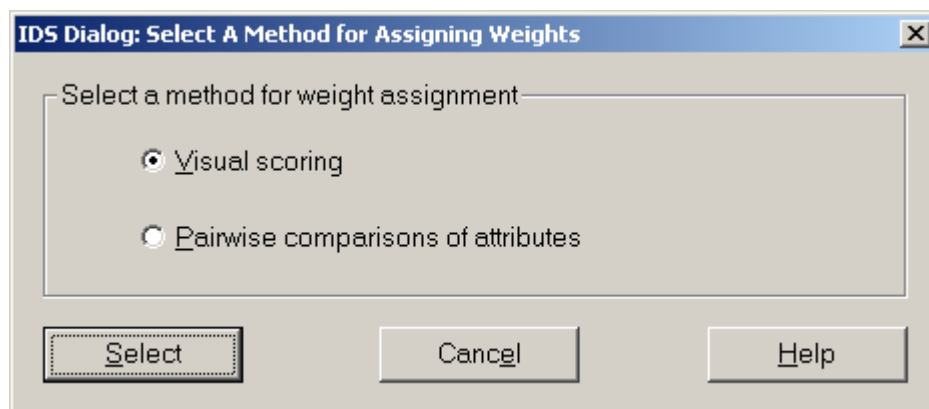
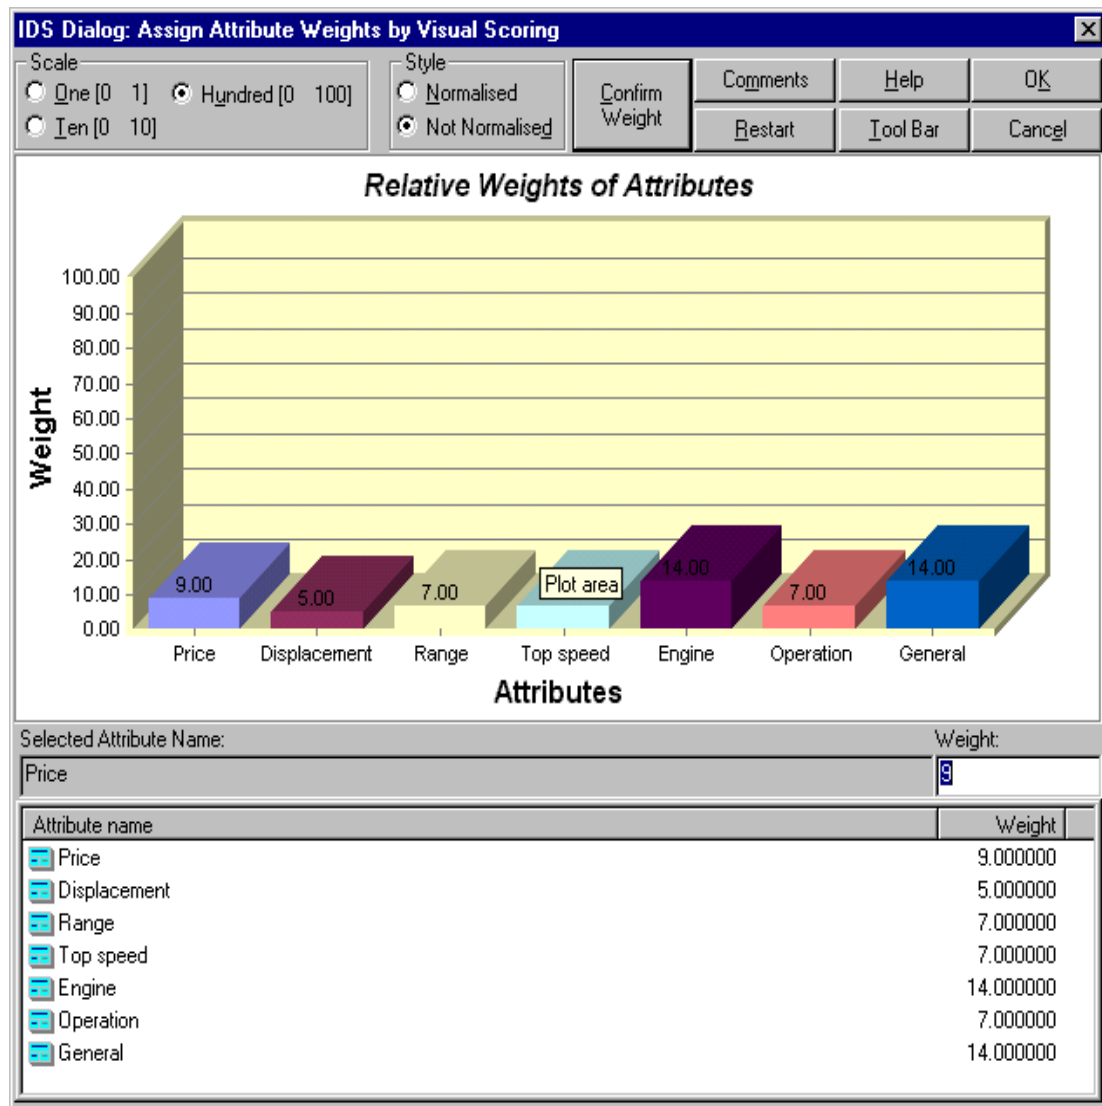
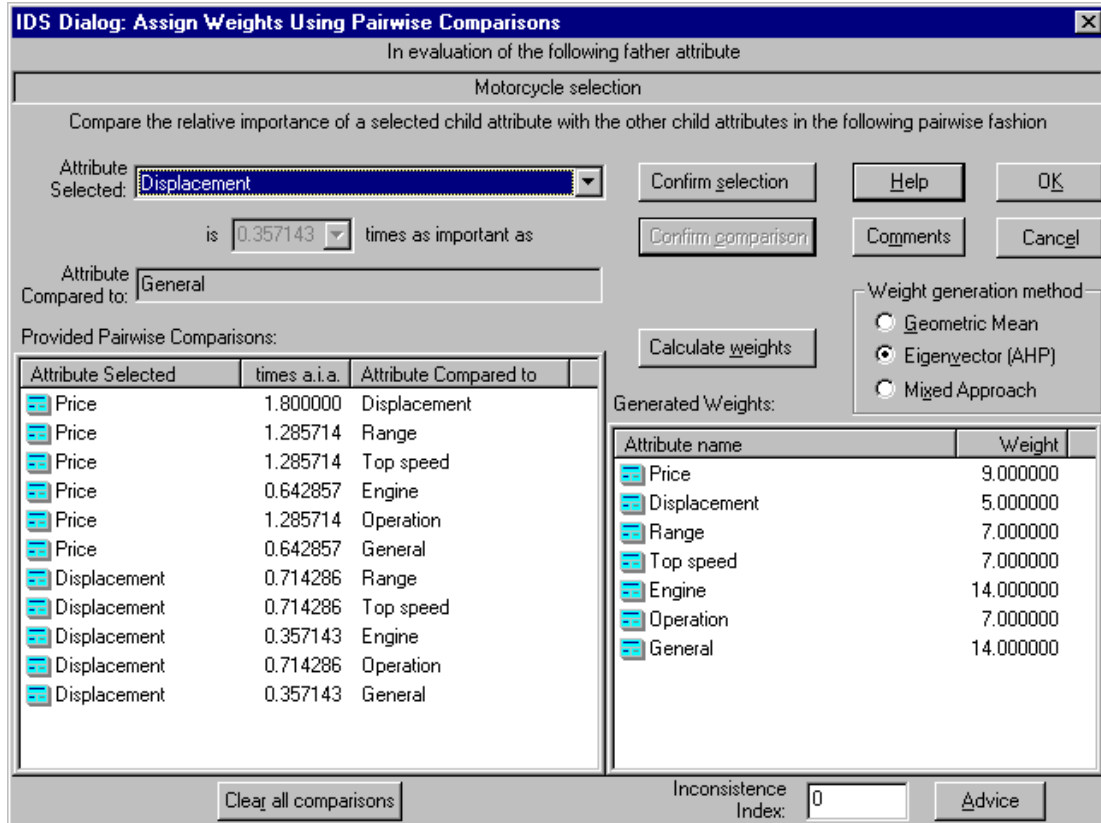

Figure 3.1 Select A Method for Assigning Weight
Figure 3.2 Assigning Attribute Weights by Visual Scoring
Figure 3.3 Assigning Attribute Weights by Pairwise Comparison
- (2) Click the shortcut icon  (the w here stands for Weight) from the toolbar of the IDS main window, and then the *Visual Scoring* radio button and the *Select* button on the *IDS Dialog: Select A Method for Assigning Weights* (**Figure 3.1**). Alternatively, from *Modelling* menu of the IDS main window select *Estimate Weight* and then select *Visual Scoring*. This will invoke the dialog window shown in **Figure 3.2**.
- (3) In the dialog window shown in **Figure 3.2**, the weight of each attribute in the group is displayed graphically. The relative importance of each attribute is represented by the height of its column. To change the weight of an attribute, you can use a computer mouse to drag the top edge of its column up and down until it reaches the desired height. During the dragging process, the weights are displayed at the top of each column dynamically.
At the bottom of the window (**Figure 3.2**), there is also a list view to list all attributes in a group and their weights. By clicking on any of the attribute name in the list, you can type in a weight value from the edit box just above the list. This is
- (4) When you are happy with weights assigned to all attributes in a group, you can click on the *Confirm Weights* button to accept the assigned weights. If you are not happy with all the changes you have made since last time you have pressed the *Confirm Weights* button or from when the window shown in Figure 3.2 was invoked, then you can press the *Restart* button to start from the previous weight setting again until you are happy with the new setting.
Dialog: Select A Method for Assigning Weights (**Figure 3.1**). Alternatively, from the *Modelling* menu of the IDS main window select *Estimate Weight* and then *Pairwise Comparison*. This will activate the dialog window similar to **Figure 3.3**.
- (3) In the dialog window shown in **Figure 3.3**, from the *Attribute Selected* drop down list, select an attribute (*Displacement* in the example of **Figure 3.3**) and then press the *Confirm selection* button. As soon as the button is pressed, the *Confirm comparison* button is enabled and so does the ratio drop down list on the left side of the *Confirm comparison* button. The ratio 0.357143 in the example of **Figure 3.3** can be edited and indicates that *Displacement* is 0.357143 times as important as the *General* attribute. *General* is the attribute name shown below the ratio drop down list in the field *Attribute Compared to*. If you are happy with the ratio displayed in the ratio drop down list, you should click the *Confirm comparison* button to save the change and move to the next pairwise comparison. The attribute name in the *Attribute Compared to* field changes each time you press the *Confirm comparison* button until all attributes in the group have been compared with *Displacement* once. When it is done, the results will be added to the list displayed in the left bottom pane of the window (**Figure 3.3**). Next, you may choose another attribute from the *Attribute Selected* drop down list and repeat the above process until all possible pairs in the group are compared. In total there are $(N^2 - N)/2$ possible pairs.
If you provide only minimum information, IDS will work out the relative importance of all the pairs. If you provide more information than minimum, then IDS will use the redundant information for consistency test. The inconsistency index is displayed at the bottom on the same window (**Figure 3.3**). More information about the inconsistency index is discussed below.
- (4) The results for the compared pairs are listed in the left bottom pane of the window shown in **Figure 3.3**. If you are not happy with any of the results, you can use the process stated above to make changes. Once you are happy with the comparison, you can click the *Calculate weights* button. The calculated weights are displayed in the bottom right pane of the window shown in **Figure 3.3**.